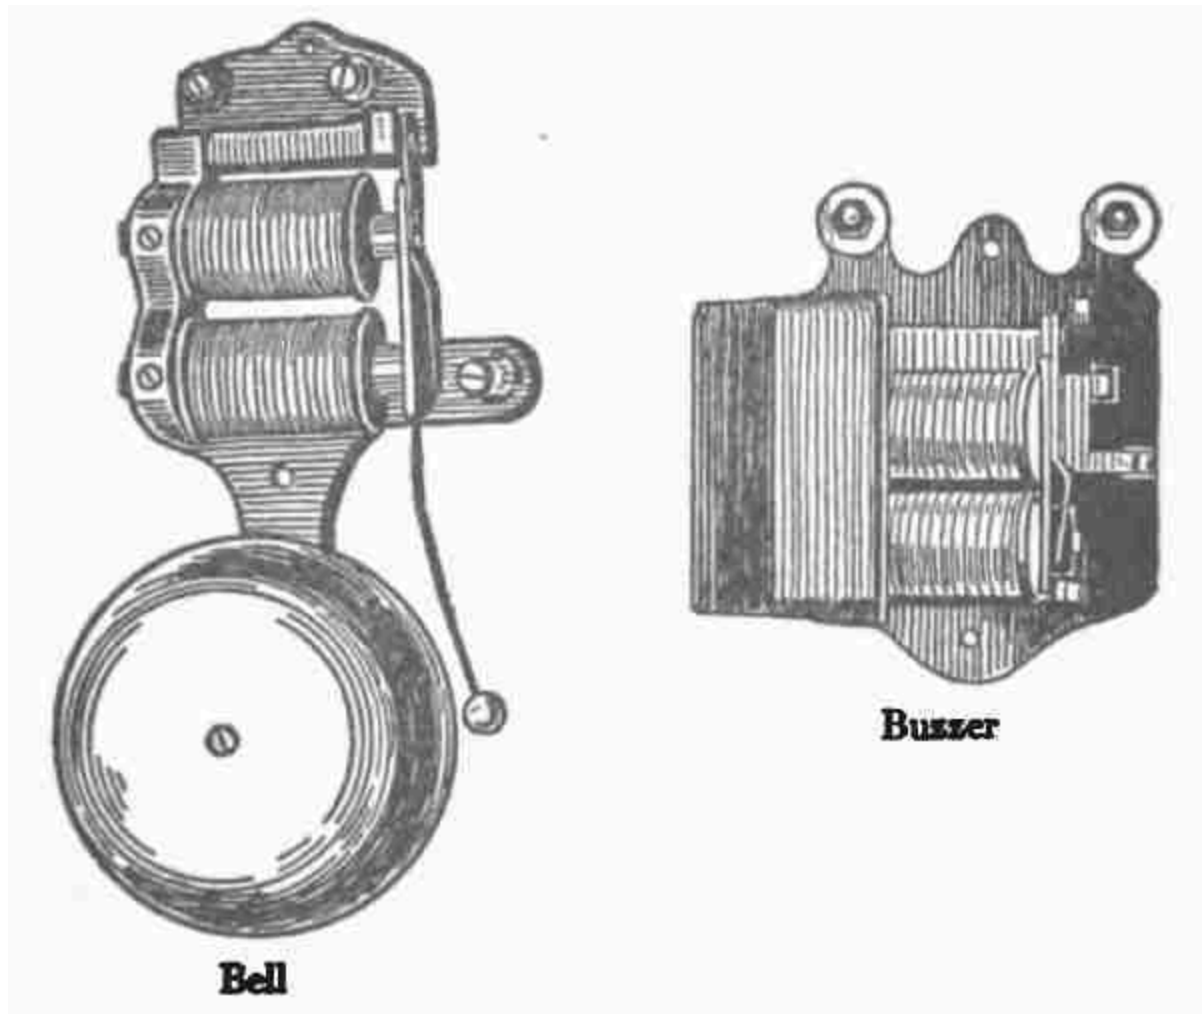

Fig. 38
13. *The Electric Bell and Buzzer* (Fig. 38).—So common a thing as an electric bell really belongs to the present generation. Bells were either novelties or toys when I was your age. They cost then many times what they do now and then were poorly made. Nobody dared to trust them for front-door bells. It was necessary to have a card permanently posted over the push button saying, "If the bell does not ring, knock." In those days batteries were troublesome to care for, houses were not wired when built, and no one had learned the art of concealing the wires neatly.
The buzzer is simply a bell minus gong and hammer. Those shown in Fig. 38 ring well on a single dry cell. A cell costing twelve cents operated one for two years while it was used as a call bell from dining room to kitchen, the current required being .15 ampere.